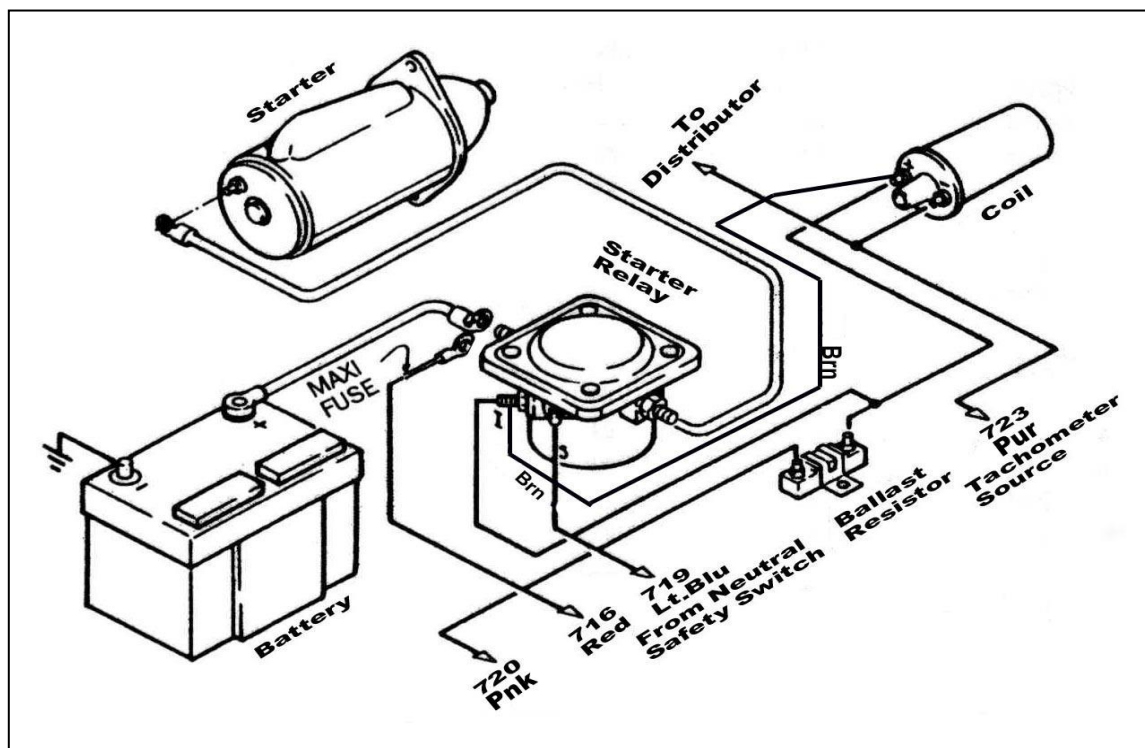

Figure 10.1 Ford Ignition (Start/Run) System
10.2 Ford Ignition (Start/Run) System. See Figure 10.1.